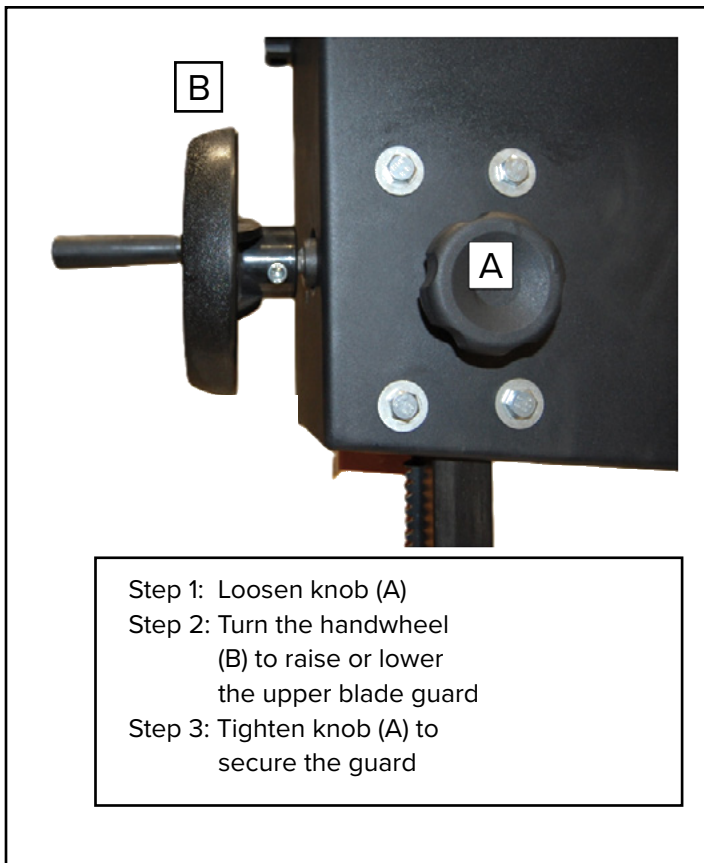

Figure 19: Blade Guard Height Control
- Note: The bottom edge of the guides should be approximately 1/4" above the top surface of the workpiece Fig. 19.